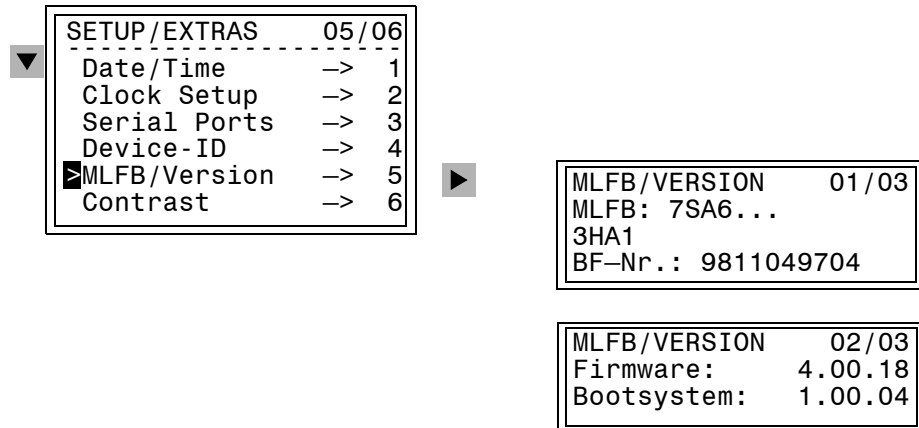

Figure 3-2 Display of device-specific data — example
- ❑ Using the ▼ key, select the menu item **Setup/Extras** and switch to the selection **SETUP/EXTRAS** using the ▶ key. See Figure 3-2.